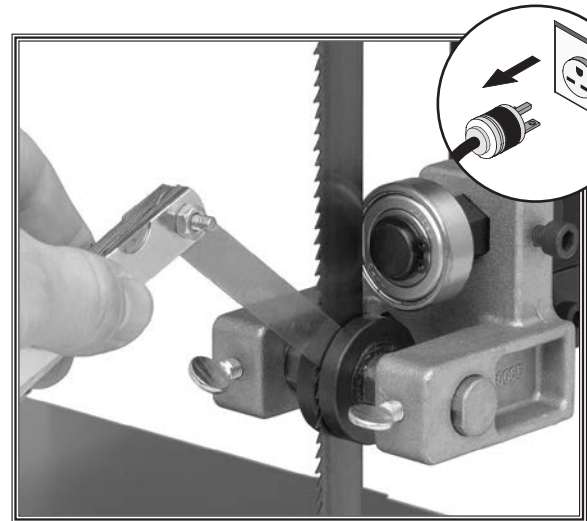

Figure 24. Setting 0.004" roller disc clearance.
5. Insert a feeler gauge and move the roller discs so there is a gap of 0.004" on each side of the blade, and tighten the thumbscrews (see **Figure 24**).